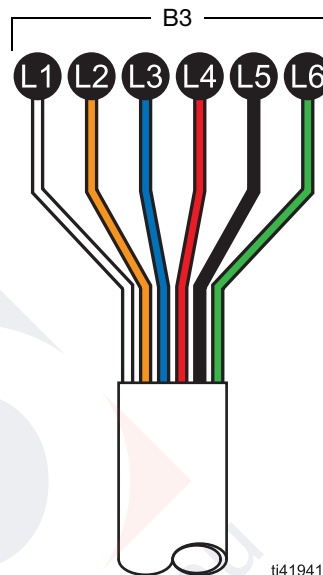

FIG. 6: I/O Cable Flying Leads
- B3** I/O cable flying leads, *not shown; see FIG. 6*